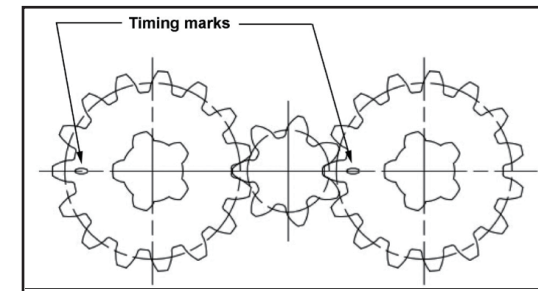

FIG15
- If the gears on the Premium PLH Lever Hoist need replacement or removal for any reason, make sure they are re-installed correctly. (FIG 15) shows the proper orientation of the timing marks when meshing the gears.